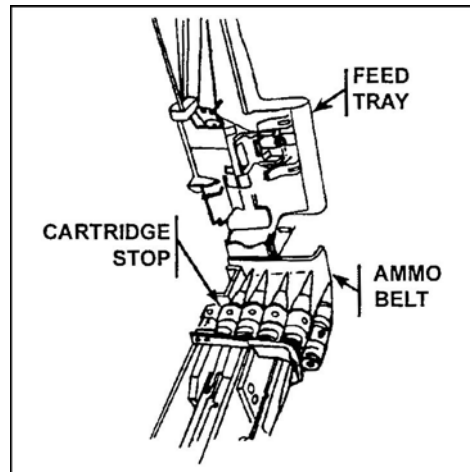

Figure 6. Cartridge stop.
- c. Place the ammunition belt in the feed tray with the first cartridge resting against the cartridge stop (Figure 6).